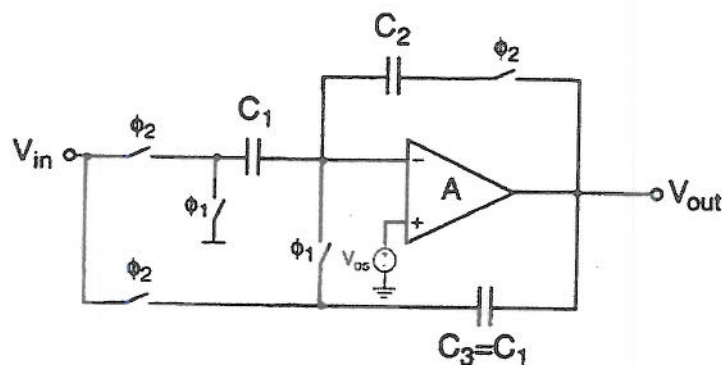

Figure 5.2
- c) Figure 5.2 shows a switched capacitor correlated double sampling integrator.
- (ii) Show, with the aid of a sketch, how the circuit in Figure 5.2 can be modified to accommodate wideband operation. [2 marks]